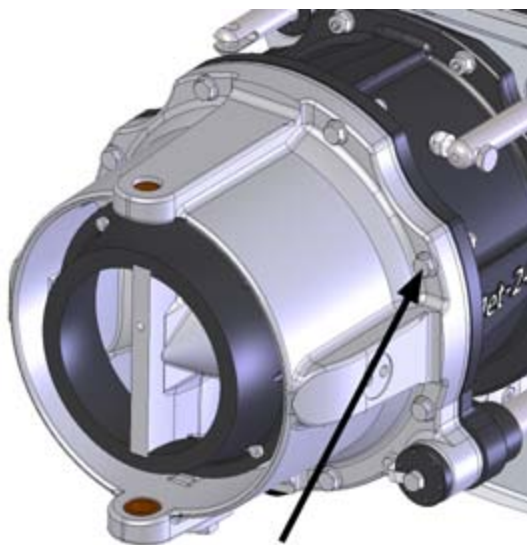

Figure 81. Stator fastening screws
2. Open the six fastening screws of the stator (8 pcs, figure 81).